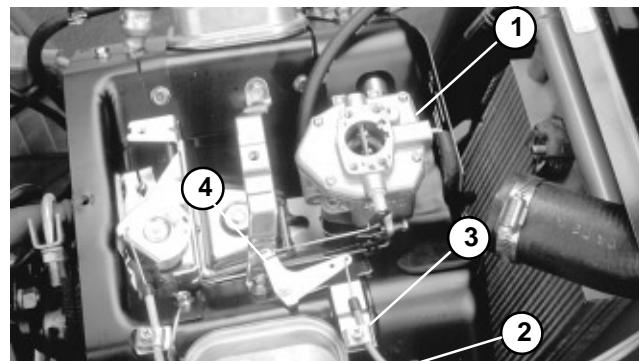

Figure 16
- Release choke cable from clamp securing it to the engine. Disconnect choke cable from the choke pivot lever on the engine (Fig. 16).
- Connect choke cable to the choke pivot lever. Attach cable to engine with clamp. Make sure not to tighten cap screw securing clamp and cable to engine (Fig. 16).